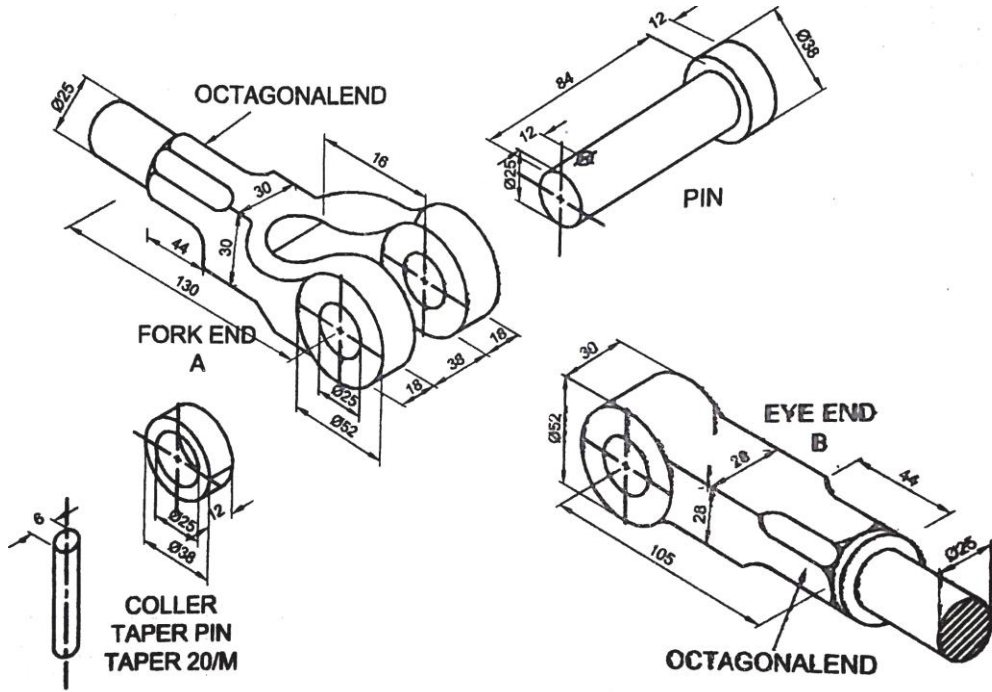

Fig. 1
- (1)      Tee.      (2)      Elbow.      (3)      Union.      (4)      Reducer.
- 1      Detailed component parts of a knuckle joint are shown by their Isometric drawing in fig. 1. Draw its assembly drawing.      **10**